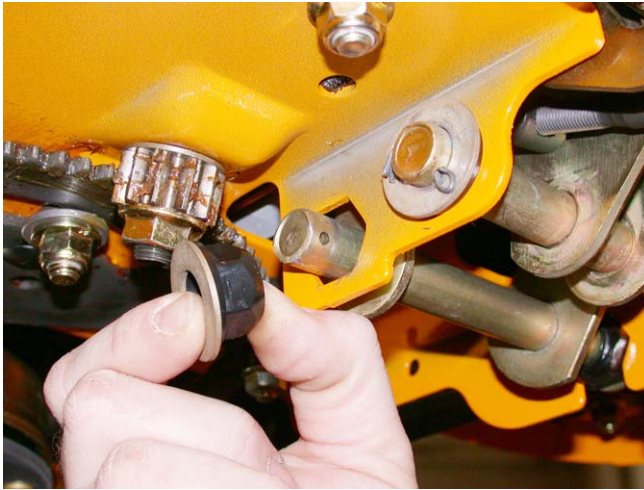

Figure 24.17
24.17. Remove the washers and inboard bushings from both shafts. See Figure 24.17.